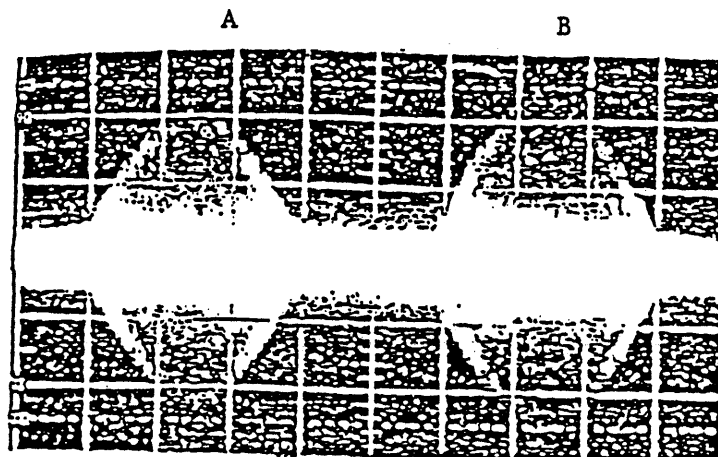
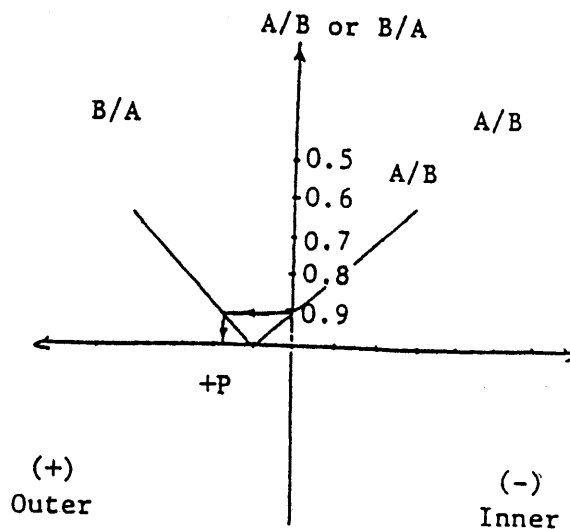

Figure 4.14.1
Figure 4.14.2
5. Step the head/carriage from Track 00 to 32. Obtain A/B or B/A, the ratio between the two amplitude lobes on the scope. Convert the ratio to a position on the CE disk conversion chart. The positioning error should be within $\pm 25 \mu\text{m}$ (See figure 4.14.1, figure 4.14.2).
5. Load the read/write heads against the disk. Insert a screwdriver through the notch in the PWB (figure 4.14.3) and move the stepper in or out to obtain the position signal shown in figure 4.14.1.